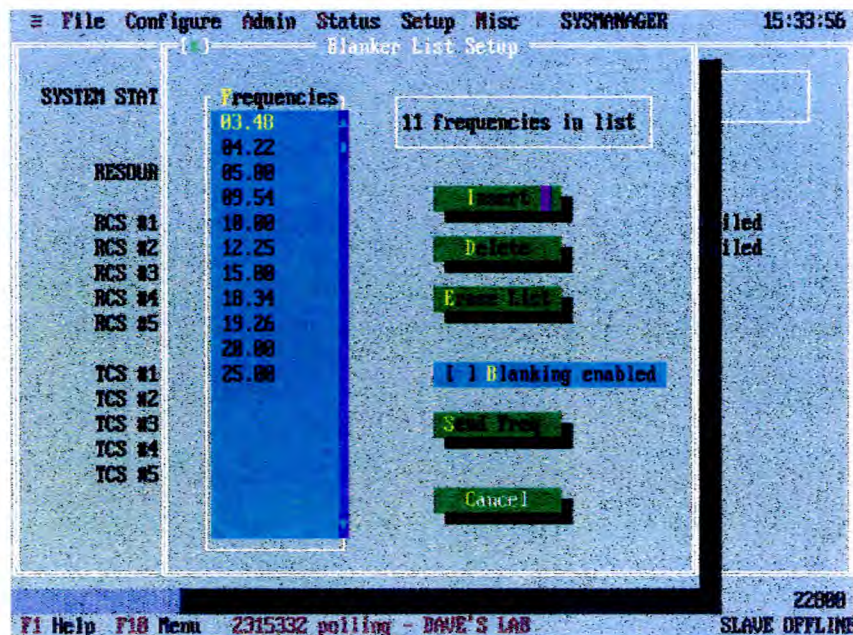

Fig 27
9 The screen shown in Fig 27, "Blanker List Setup" is obtained for the selected TCS-5. The blanker frequencies are listed (and can be modified) on this screen. Further functions are as follows:
9.6 SEND FREQ : This selection sends the whole "Blanker" list (as displayed on screen Fig 27) to the selected TCS-5 via its associated modem, and saves all the current blanker frequencies in the list.